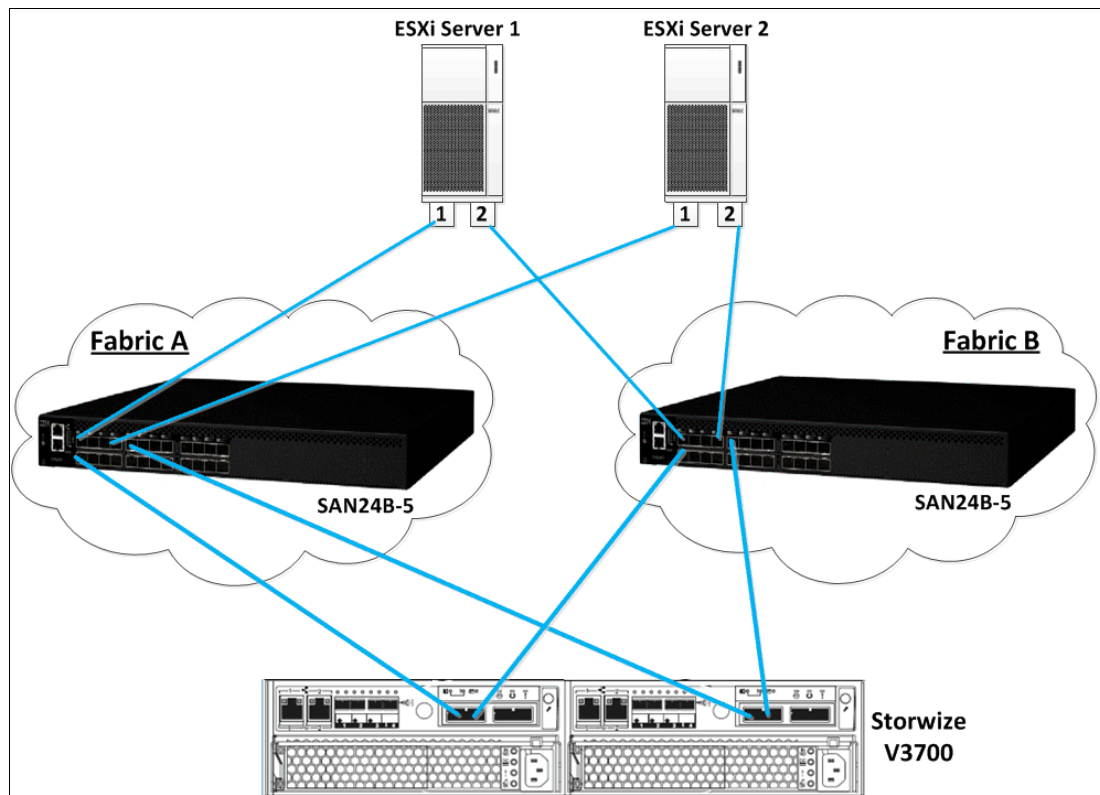

Figure 6-1 High-level view for the topology being considered
The adopted SAN topology in this example is called *Collapsed Core Topology* because it is composed of only one switch per fabric in a dual fabric, meaning that there is no Inter-Switch Link (ISL) between them, as shown in Figure 6-1. It is the simplest design for infrastructures that require some redundancy.
Considering the components in Figure 6-1 on page 202, we will assume the following naming convention just to make it easier to understand during the explanation:
As also shown in Figure 6-1 on page 202, the approach used here is to have all “odd” port/HBA attached to Fabric A and all “even” port/HBA attached to Fabric B. Therefore, we can now start working on the zoning scheme by using the same approach for a better understanding.
- ☐ FC Host Adapter ports are connected to the switches (refer to Figure 6-1 on page 202)